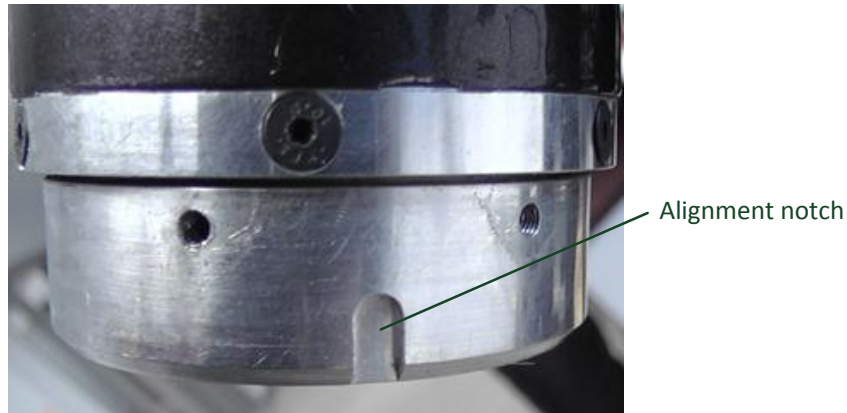

Figure 18 - Alignment notch located on the actuator
- 7) Locate the pin inside the aluminum ring of the arm (see Figure 12 for alignment pin, p.14). Align the pin with the notch on the actuator (see Figure 18, p.20) and insert the actuator in the aluminum ring;
- 3) Locate the pin inside the aluminum ring of the arm (see Figure 12 for alignment pin, p.14). Align the pin with the notch on the actuator (see Figure 18, p.20) and insert the actuator in the aluminum ring;